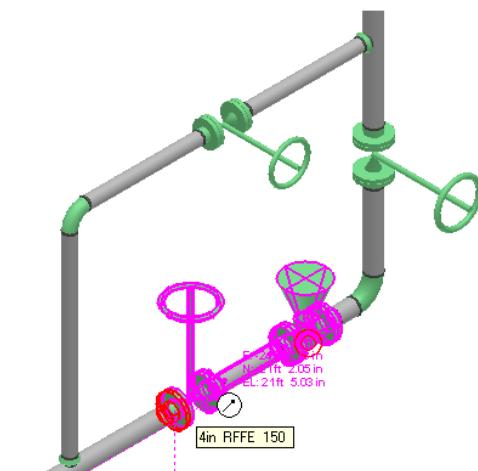

Figure 15.21: Origin of the Move Vector
9. Select the gate valve **port1** as the origin of the move vector, as shown in Figure 15.21.